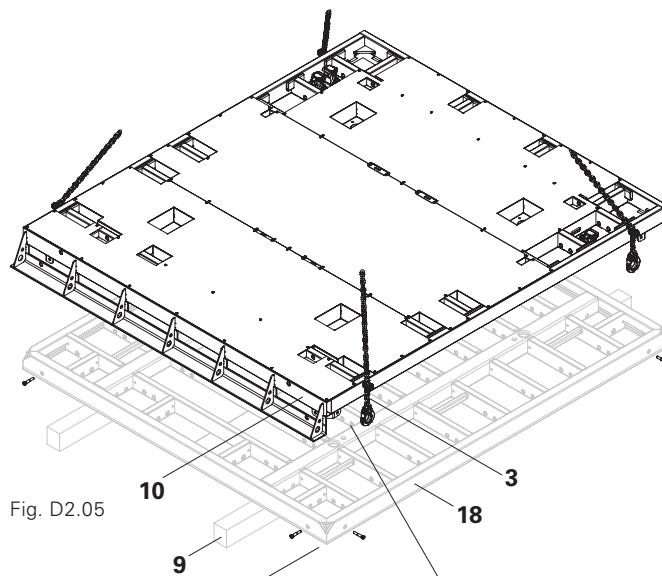

Fig. D2.05
3. Lift Heated Panel MXH using the crane and move to the specified cleaning area. (Fig. D2.05)